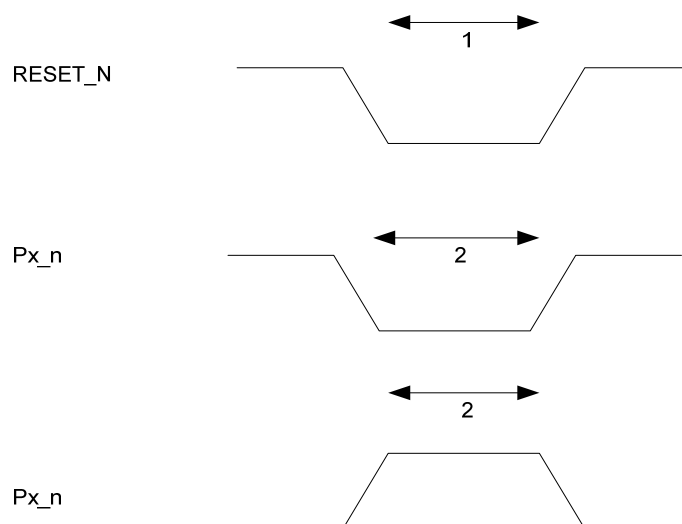

Figure 4: Control Inputs AC Characteristics
| | RESET_N low width | 250 | | | ns | See item 1, Figure 4. This is the shortest pulse that is guaranteed to be recognized as a reset pin request. Note: Shorter pulses may be recognized but will not lead to complete reset of all modules within the chip. |
| | Interrupt pulse width | t_{SYSCLK} | | | | See item 2, Figure 4. This is the shortest pulse that is guaranteed to be recognized as an interrupt request. In PM2/3 the internal synchronizers are bypassed so this requirement does not apply in PM2/3. |